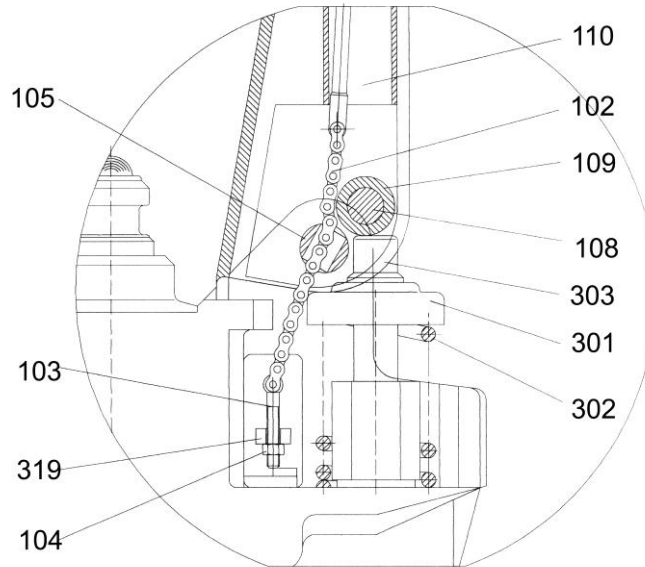

Fig. 3
**2.2** Let control handle(117 or 120G) to the '**LOWER**' position, then pass the adjusting nut(104), adjusting bolt(103) and chain(102) through the hole of axle(105) with your hand (See fig. 3).